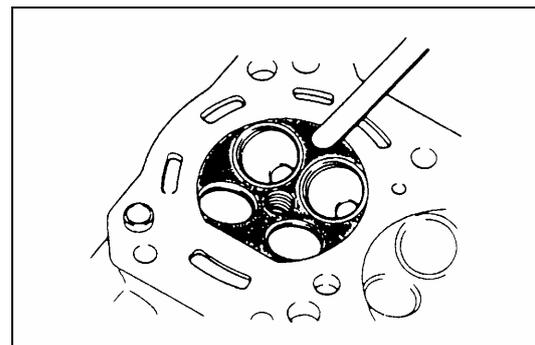

fig. 4-168
1) as shown in fig.4-168, clean carbon deposit in the firebox.